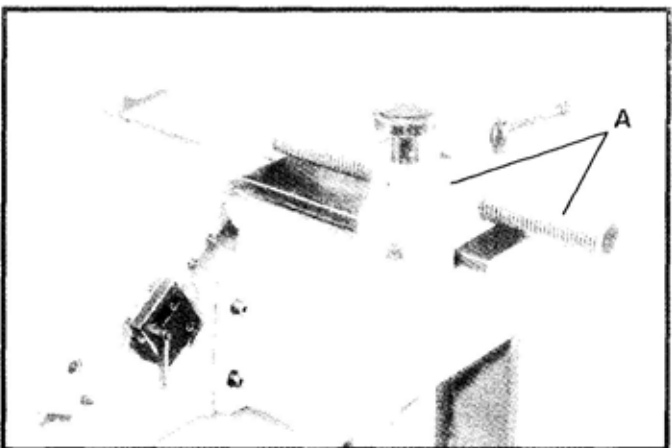

Fig. 16
2. Fig. 16, illustrates the fence carriage assembly (A) properly mounted to the jointer.